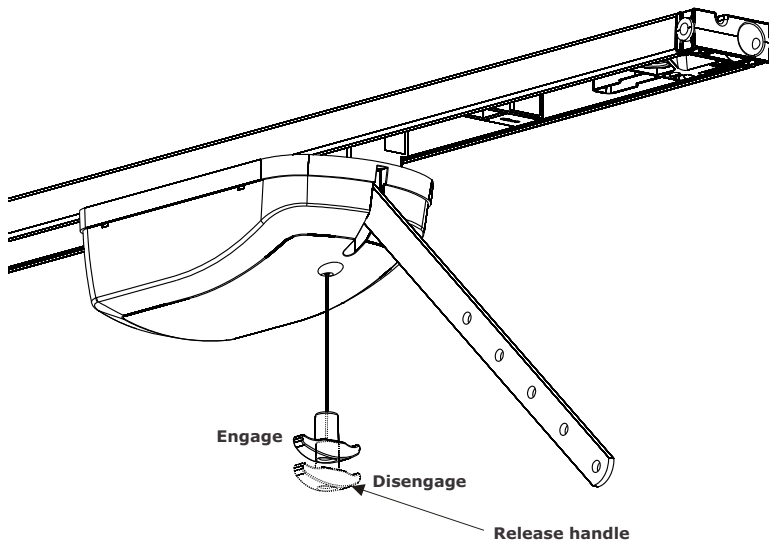

FIGURE 12. ENGAGING / DISENGAGING
- With the Drive Unit disengaged (Figure.12) position the Drive Unit in either one of the following ways;
- TO DISENGAGE - pull down on the release handle (Figure.12) until a click is "felt" and then release the handle